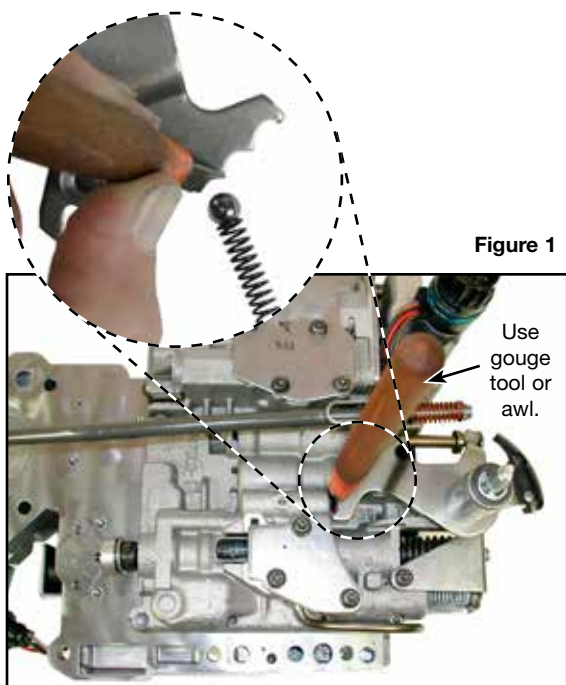

Figure 1
- Secure manual lever detent ball by using a dull wood workers gouge tool to compress the detent ball while removing the manual lever (**Figure 1**).